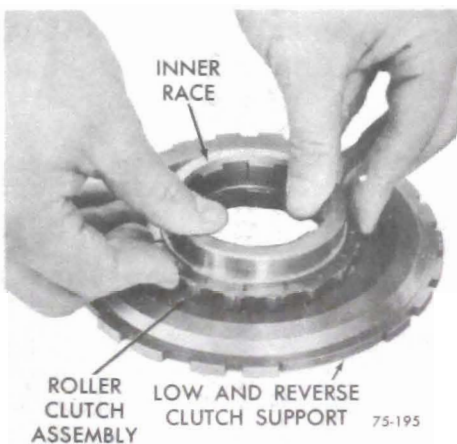

Figure 75-226
2. Install low and reverse overrun roller clutch assembly and inner race into the low and reverse clutch support. See Figure 75-226.